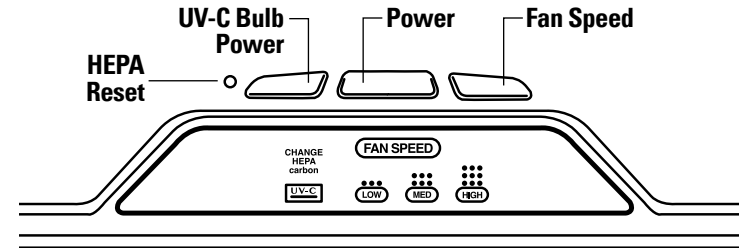

Figure 1
4. Select UV-C ON or OFF using UV-C Power Button (Figure 1).